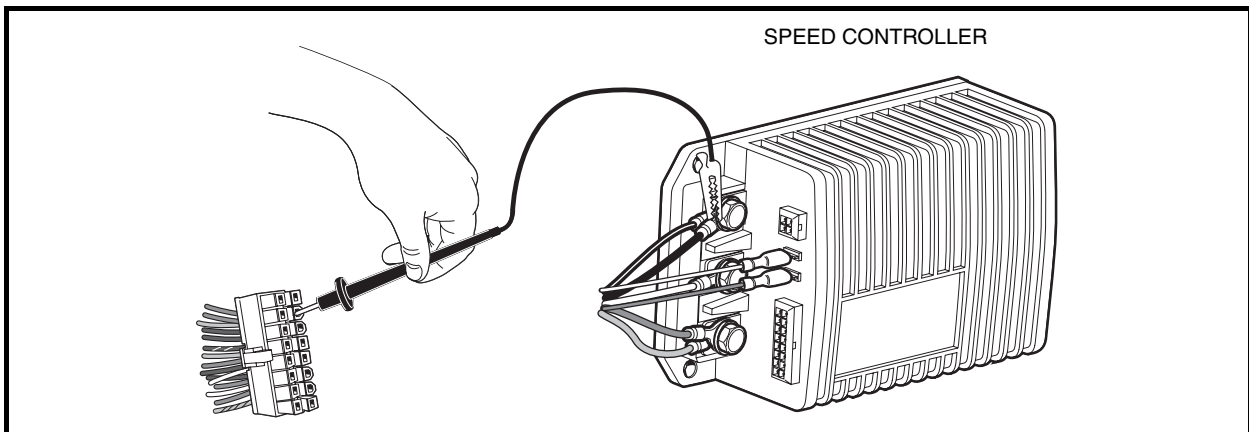

Figure 11-14 Pin 7 Test
4. Place a jumper wire with an alligator clip between the B– terminal of the speed controller (use alligator clip for this connection) and pin 7 (orange/white wire) of the 16-pin connector (**Figure 11-14, Page 11-27**). **See following CAUTION.**